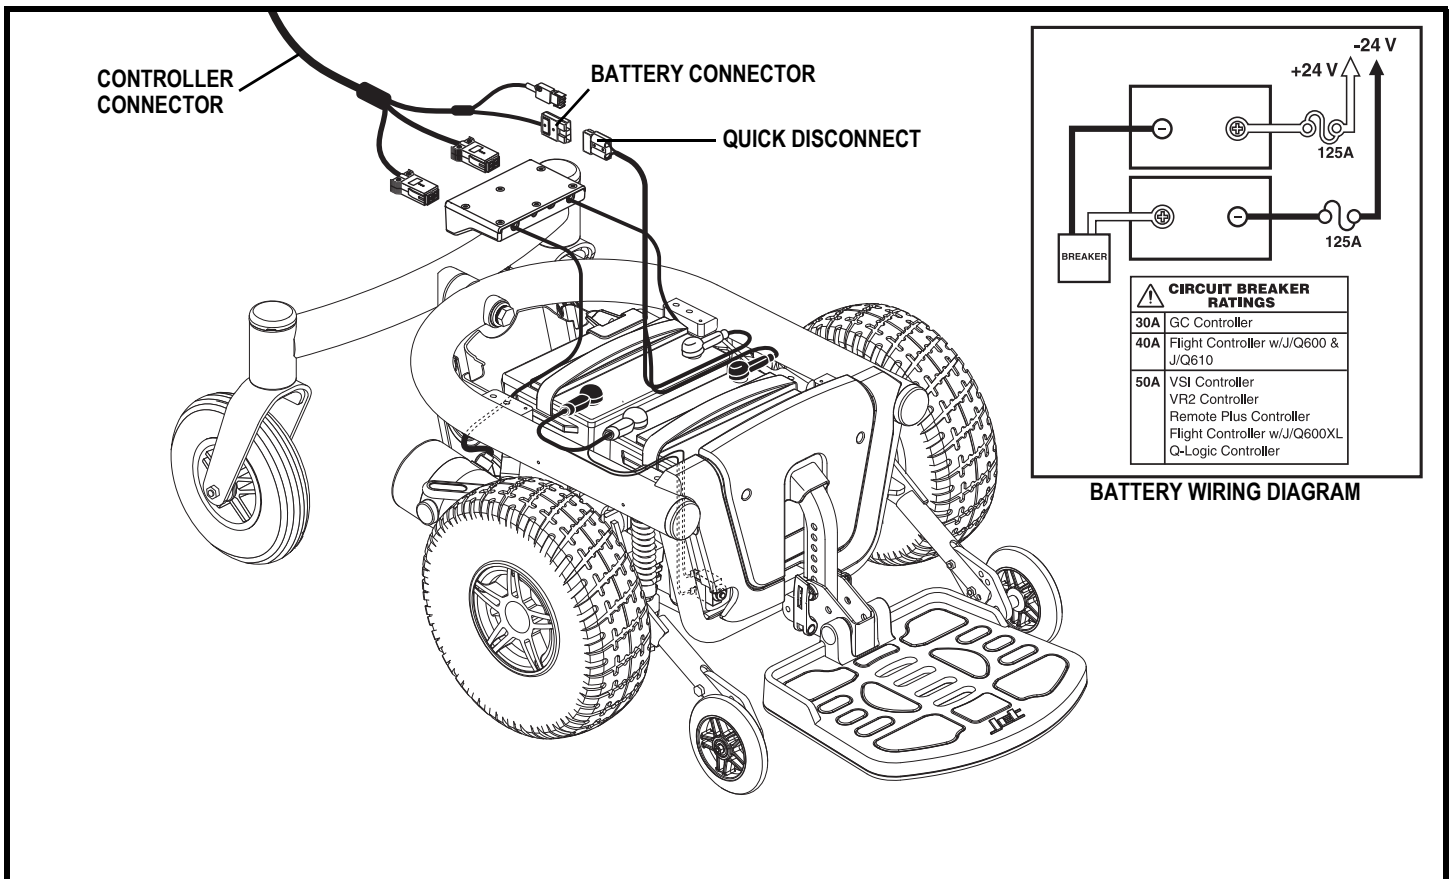

Figure 31. Battery Connections
5. Unplug the battery connector. **See figure 31.**
16. Connect the wiring harnesses to the rear battery. **See figure 31.**